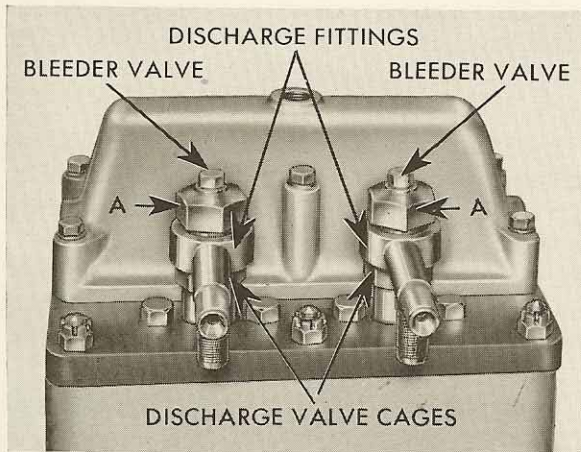
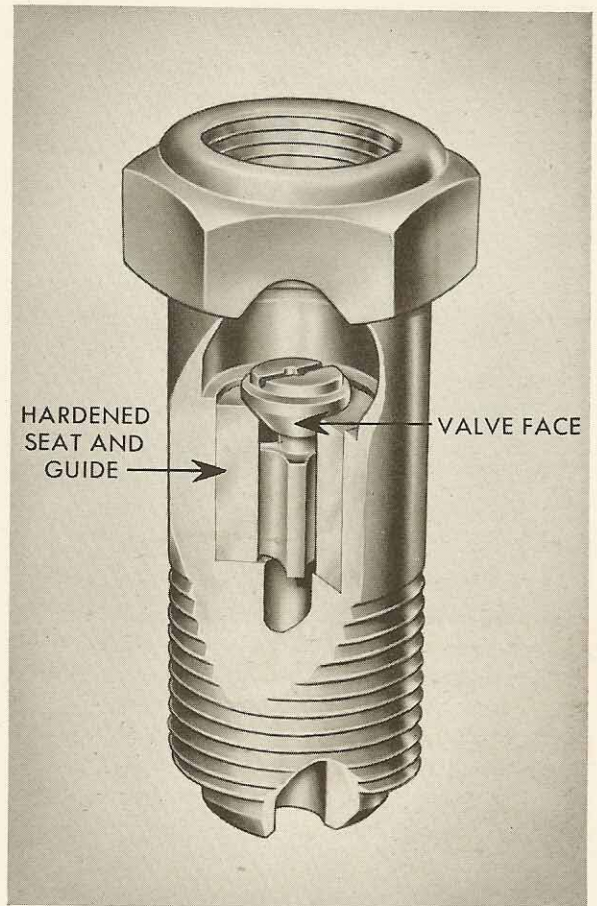

FIGURE 16-7
FIGURE 16-8
14. REMOVAL AND SERVICING OF THE DISCHARGE VALVES: The discharge valve cages, shown in Figure 16-7, screw directly into the pump block and can be removed after the high pressure tubing has been disconnected. The indications of a leaky discharge valve are the same as those described for a leaky regulator in paragraph 2, this section. Both the valve and the seat are very hard so they are seldom scored. A leak more often comes from dirt lodged between the valve and seat. This dirt can usually be removed by a thorough cleaning. If this fails, the valve can be ground in the normal way with very fine grinding compound. If either the cage or valve seat is badly scored, the assembly should be replaced, as grinding out deep scores is a lengthy job.
The two nuts, A, Figure 16-7, release the discharge fittings. The valve cages are next unscrewed from the pump mounting plate. Figure 16-8 shows the discharge valve and cage.
CAUTION: The nut, A, Figure 16-7, forms a stop which governs the lift of the discharge valve. When the unit is assembled the total lift should be $\frac{3}{32}$ inch. If, upon removal, the end of this nut is found to be unduly hammered up where it comes in contact with the head of the discharge valve, it is almost a sure sign that the hardened seat and guide, shown in Figure 16-8, is loose.